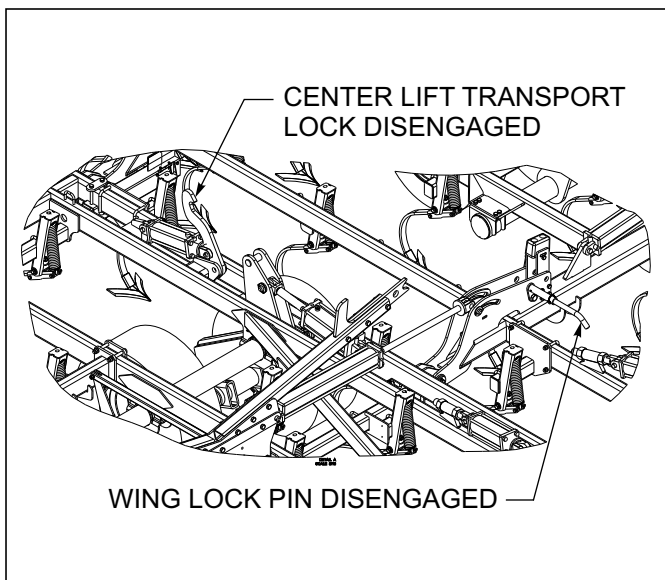

Figure 4-4: Stored Transport Locks
2. Begin folding the machine. Transport locks will engage on the center lift as the outer wings are folding, fully fold all inner and outer wings (See Figures 4-4 and 4-5.)
2. Fully raise the folded machine to unhook the locks and continue to hold the lever to fully extend the wing transport wheels (See Figures 4-4 and 4-5.)